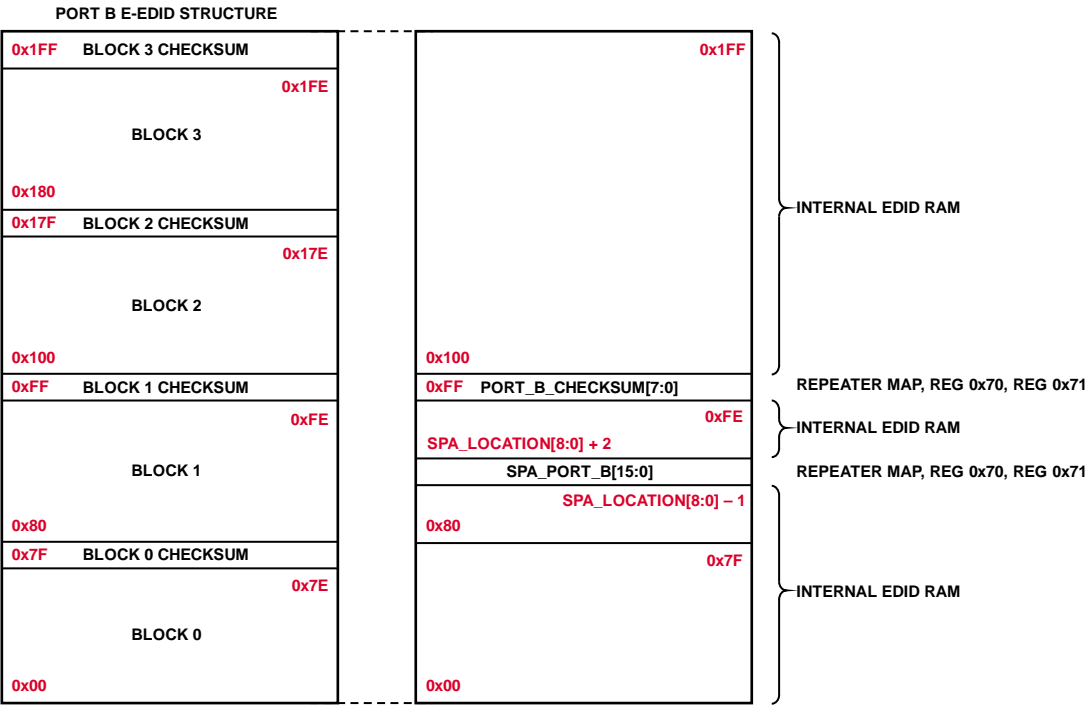

Figure 5. Port B E-EDID Structure and Mapping for SPA Located in E-EDID Block 1
- Figure 5—SPA located in E-EDID Block 1